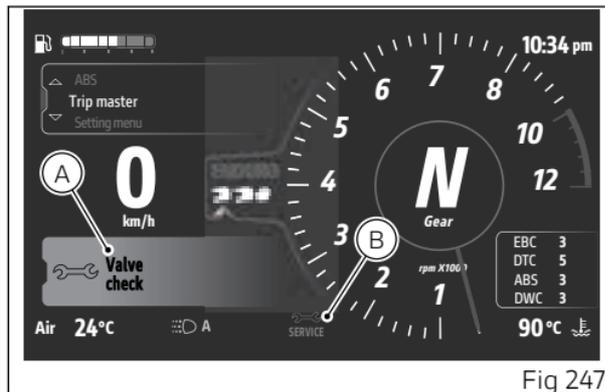
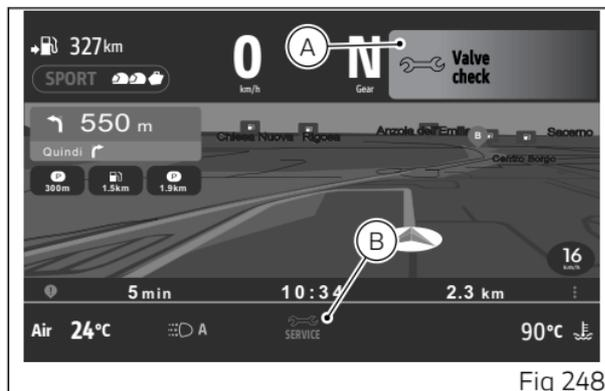

Fig 247
Fig 248
Service coupon deadline warnings are displayed in 2 modes: big (A) and small (B). These figures indicate the corresponding positions in the main page (Fig 247) and in the Ducati Connect page (Fig 248).